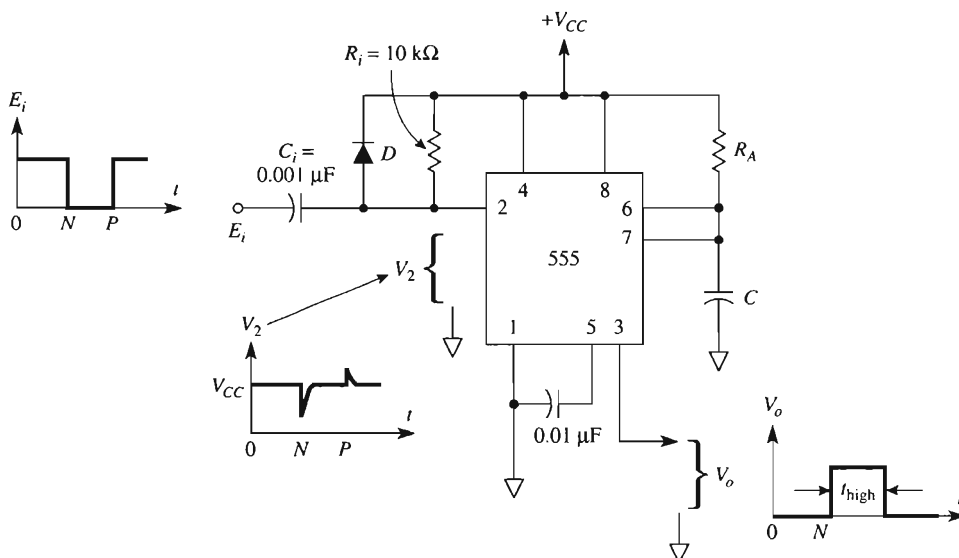

FIGURE 13-12 For satisfactory monostable operation, the input pulse network of R_i , C_i , and D is needed.
Figure 13-12 shows the multivibrator wired for monostable operation in contrast with Fig. 13-11(a). R_i , C_i , and diode D are needed to generate a single output pulse for one input pulse. Resistor R_A and capacitor C determine the time that the output is high, as given by Eq. (13-9). Resistor R_i is connected between V_{CC} and pin 2 to ensure that the output is nor-
mally low. C_i is charged to $(V_{CC} - E_i)$ until the negative-going trigger pulse occurs. The time constant of R_i and C_i should be small with respect to the output timing interval t_{high} . Diode D prevents the 555 timer from triggering on positive-going edges of E_i . Waveforms for the input pulse, E_i , the pulse at pin 2, V_2 , and the output pulse, V_o , are all shown in Fig. 13-12.
(a) If $R_A = 10 \text{ k}\Omega$ and $C = 0.2 \text{ }\mu\text{F}$ in Fig. 13-12, find t_{high} . (b) What is the time constant of R_i and C_i in Fig. 13-12?
Figure 13-12 also can be used as a frequency divider if the timing interval is adjusted to be longer than the period of the input signal E_i . For example, suppose that the frequency of E_i is 1 kHz, so that its period is 1 ms. If $R_A = 10 \text{ k}\Omega$ and $C = 0.1 \text{ }\mu\text{F}$, the timing in-
- (a) Calculate the timing interval in Fig. 13-12 if $R_A = 10 \text{ k}\Omega$ and $C = 0.1 \text{ }\mu\text{F}$.